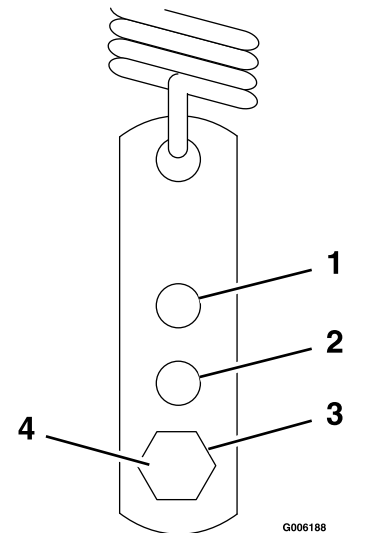

Figure 23
2. For a heavier drive setting, relocate the spring anchor links to either the “medium” or “heavy duty” positions as shown in Figure 23. The spring anchor links are attached to the upper rear corner of the hydro drive shields on the left and right hand sides of the machine.